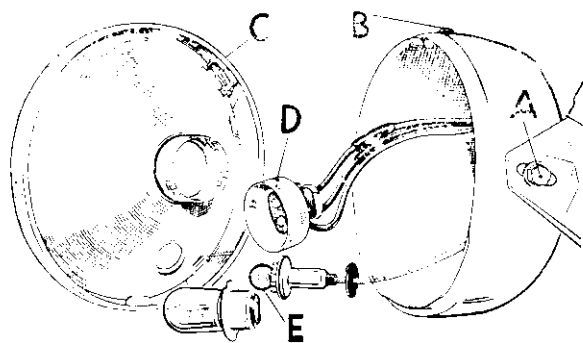

FIGURE 35.
The light is adjustable at its side mountings (A) Fig. 35, and
The bulb holder (*E*) Fig. 35, is a push-fit in the reflector (see notes under Headlight).